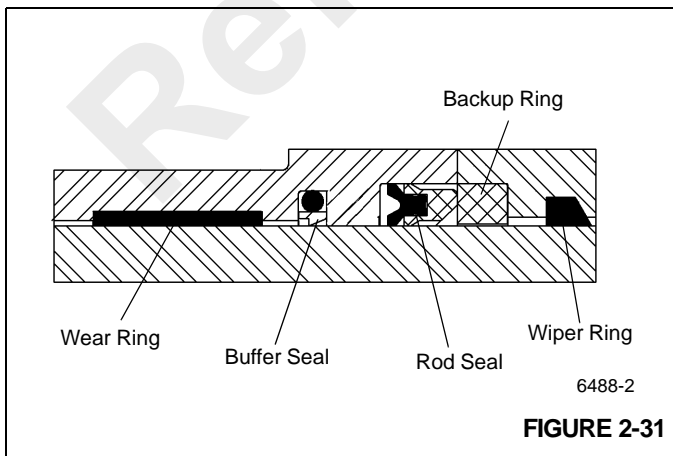

FIGURE 2-31
3. Install the wear rings into the head (Figure 2-31).
4. Install the buffer seal, rod seal and backup ring inside the head ensuring the seals are assembled properly and installed in the correct direction (Figure 2-31).